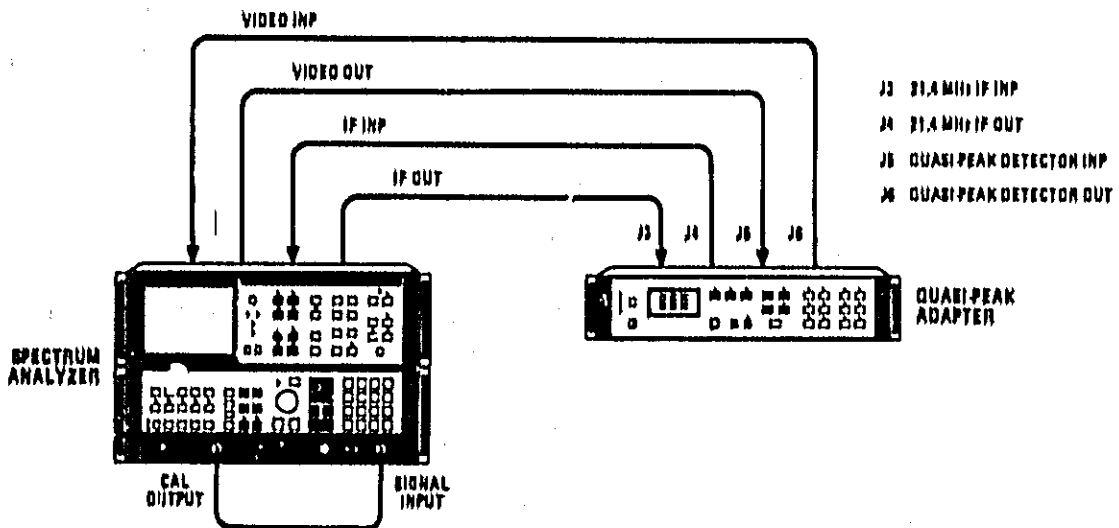

Figure 4-2. Bandpass Filter Selectivity Test Setup
1. Connect equipment as shown in Figure 4-2.